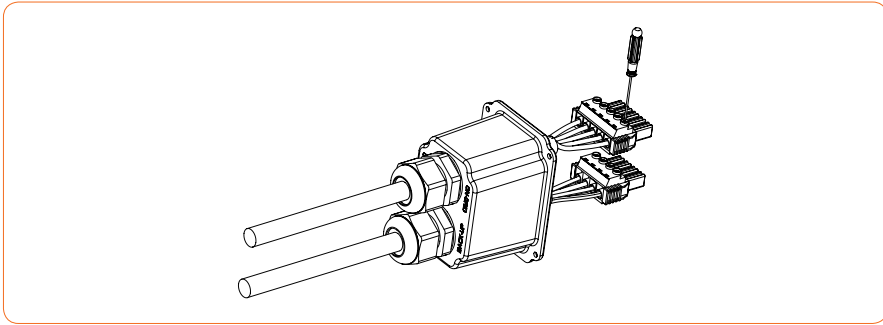

Figure 4-30
④ Lock the well-pressed cord end terminals into the AC connector in the accessory bag and make sure the cables sequence is in line with the mark on the connector, as shown in Figure 4-30: